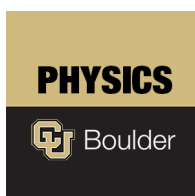

Figure 4: Circuit diagram for a voltage-controlled electromagnet.
1. Build the circuit shown in Figure 4 using your coil.